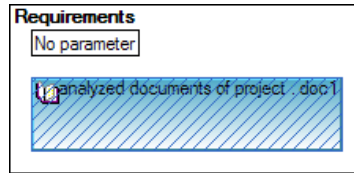

Figure 5-3. Inserted Analyzed Documents Element
8. Select the **project»Contents»analyzed documents** element and drag and drop the element to the selected item in the report as shown in Figure 5-3.